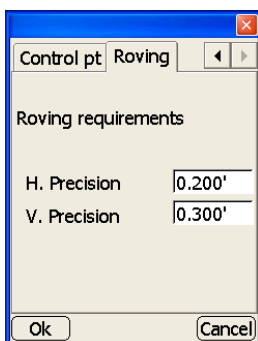

Figure 6-3. Enter Roving Accuracy Limit
4. Tap the *Roving* tab to set roving measurement requirements (Figure 6-3 on page 6-4). Press **Ok** to return to the main screen.